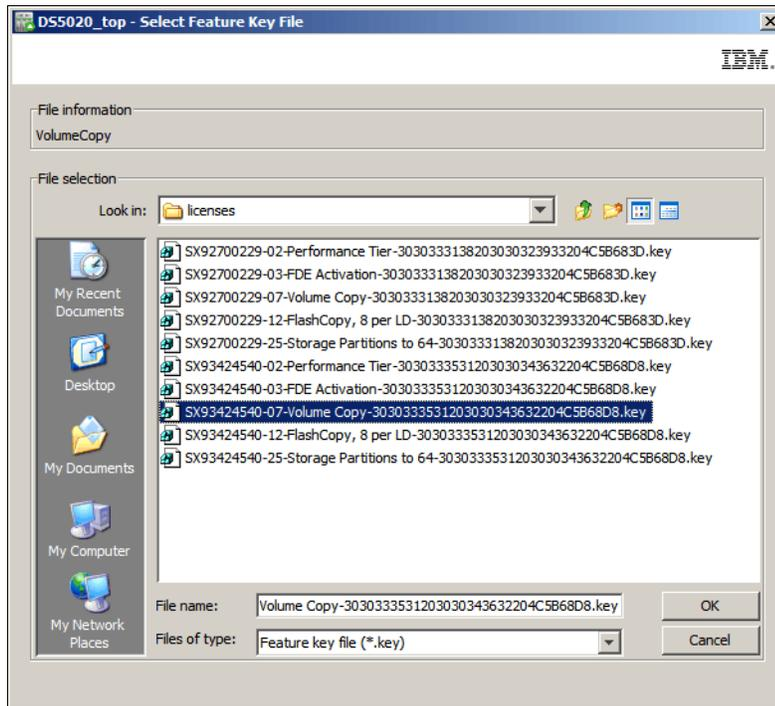

Figure 1-4 Selecting key file for premium feature activation
2. Click **Enable** and select the key file received by email in previous section as shown in Figure 1-4, and click **OK**.